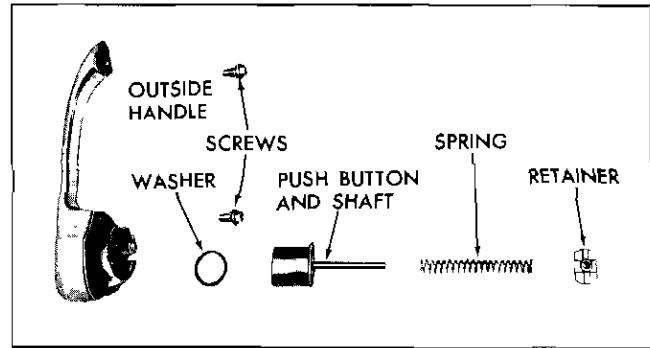

Fig. 2-34 Outside Handle Assy.
2. Depress retainer sufficiently to turn retainer one-quarter turn. Remove retainer, spring push button and shaft and sealing ring from handle (Fig. 2-34).